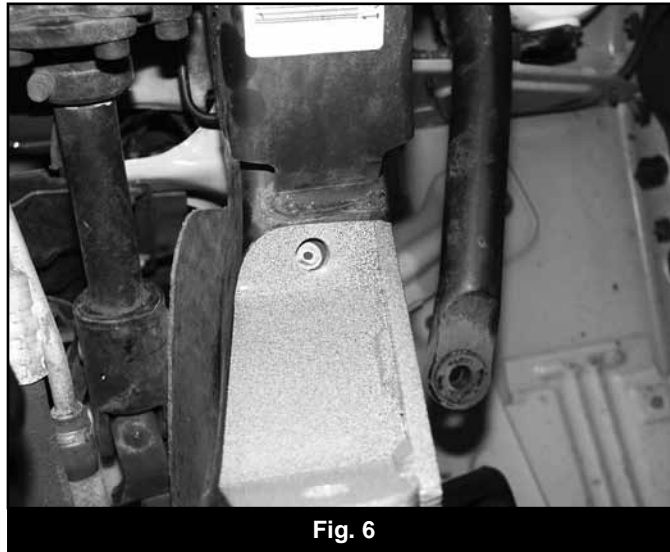

Fig. 6
13. Rotate the track bar bracket so that the front end fits flush against the bottom of the frame. The front edge of the bracket should be roughly parallel to the welded edge of the steering box mount. The front outside edge of the bracket should be flush with the outside of the frame. Mark the hole to be drill on the bottom surface of the frame (Fig 6).